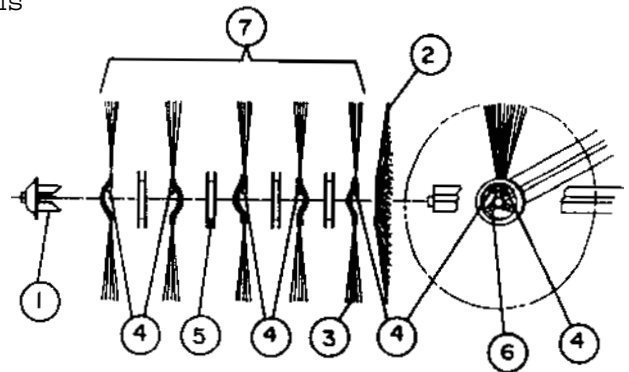

FIGURE 2
- c) Remove broom side plates with retainer cups (fig.2, item 1), worn brushes and spacer rings.
- d) Place one concave slanted brush (fig.2, item 2) on each side of gearbox facing each other, and install a zigzag brush (fig.2, item 3) next to each slanted brush [placing pins (fig.2, item 4) inside the brush against the concave brush]. Install a spacer ring (fig.2, item 5) next to the zigzag brush and place another zigzag brush with the pins away from the spacer ring [important: pins inside the zigzag brushes must all be positioned on the same brush support cone (fig.2, item 6)]. Place another spacer ring and a zigzag brush with the pins (fig.2, item 4) on the spacer ring side and so on, spacing brushes with spacer rings. Must end with a zigzag brush with the pins towards the gear box or check figure 2 and redo pattern (fig.2, item 7).
IMPORTANT: Pins (fig.2, item 4) in zigzag brushes must all be on same brush support cone (fig. 2, item 6).